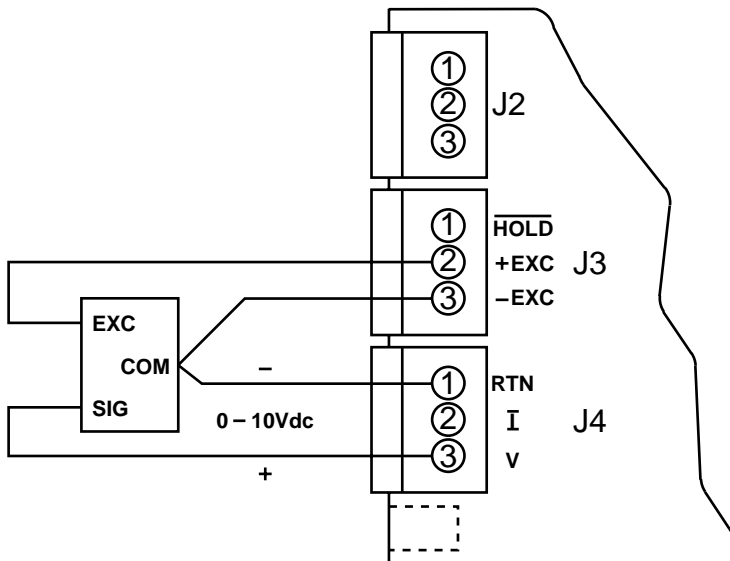

**Figure 3-3. Panel Cut-Out**
1. Cut a hole in your panel according to the dimensions specified in Figure 3-3.
1. Install jumper S4 to enable the calibration procedure (refer to Figure 3-3).